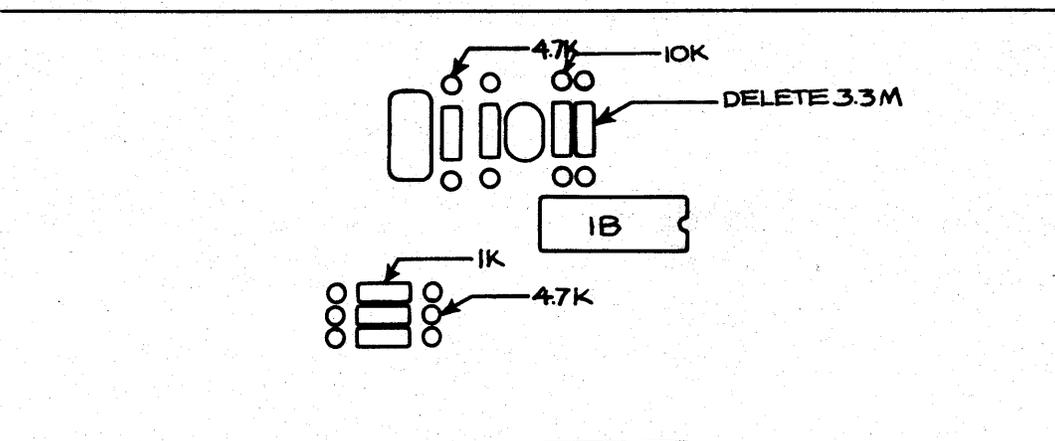

Figure 2: Sorcerer I
7. The signal should look like Figure 2.